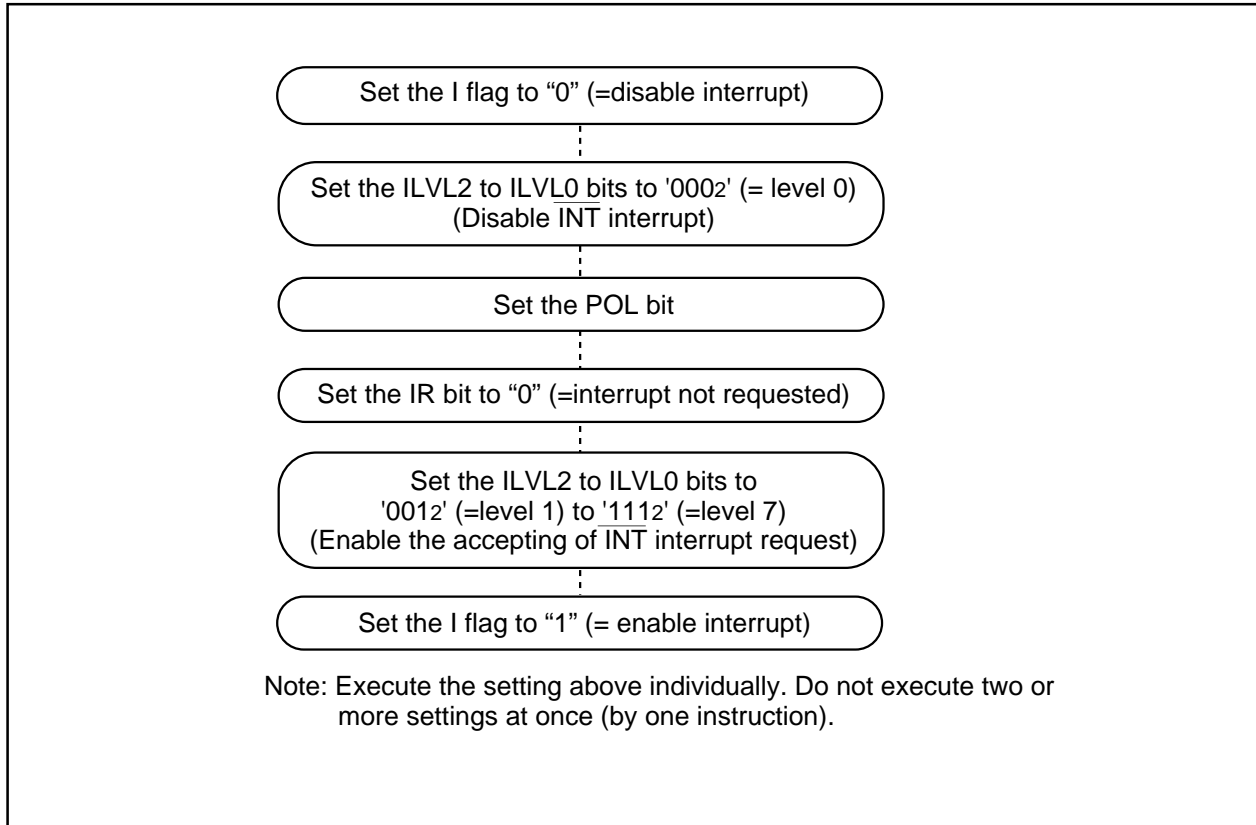

Figure 1.1.1. Procedure for Changing the \overline{INT} Interrupt Generate Factor
2. When the polarity of the $\overline{INT0}$ to $\overline{INT5}$ pins is changed or the interrupt request cause of the software interrupt numbers 8 to 9 is changed, the IR bit is sometimes set to “1” (interrupt request). After these changes were made, set the interrupt request bit to “0” (no interrupt request). Figure 1.1.1 shows the procedure for changing the \overline{INT} interrupt generate factor.